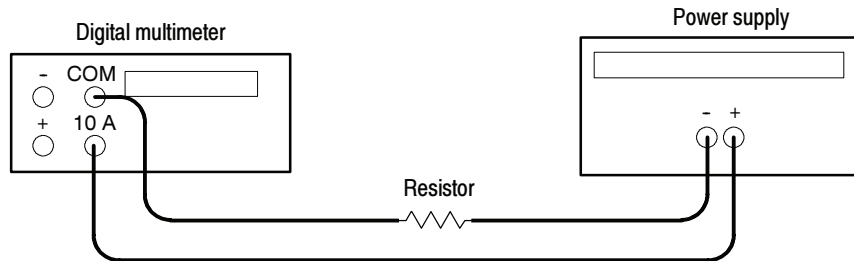

Figure 6: Constant current source test setup
2. Ensure that the power supply output is disabled. Connect the Current Meter and 27 Ω 100 W resistor to the front panel OUTPUT 1 terminals. See Figure 6 for details.
10. Ensure that the power supply output is disabled. Remove the leads from the front panel OUTPUT 1 terminals and connect them to the front panel OUTPUT 2 terminals. Maintain the equipment configuration and polarities shown in Figure 6.
2. Ensure that the power supply output is disabled. Connect the Current Meter and 2.2Ω 50 W resistor to the front panel OUTPUT 3 terminals. See Figure 6 for details.